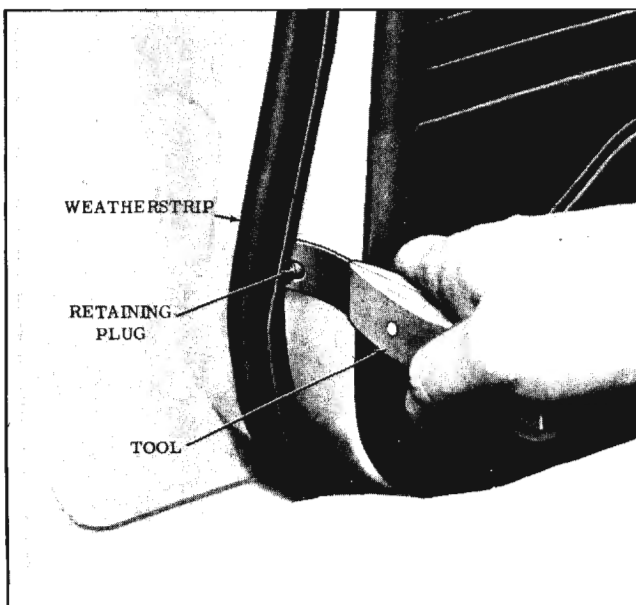

Fig. 16-23 Removing Retaining Plug
3. Slide tool under weatherstrip at a fastener location and grip fastener as close to door panel as possible; then, gently pry fastener out of its respective door piercing. (Fig. 16-23)
2. Slide tool under weatherstrip at a fastener location and grip fastener as close to door panel as possible; then, gently pry fastener out of its respective door piercing. (Fig. 16-23)